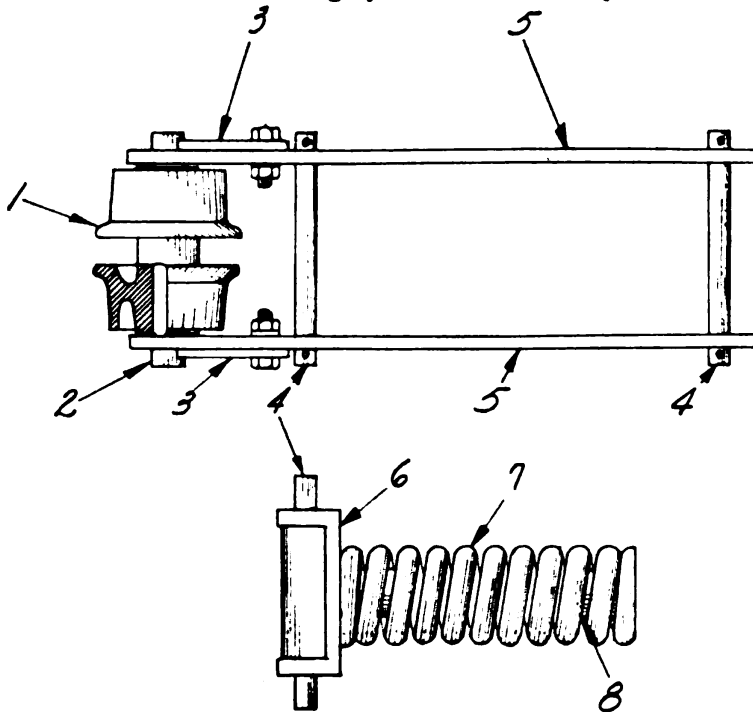

Figure 116. Spring tension idler.
Uncouple treads as directed under "Crawler Treads," partial repairs. Remove pins (4) Figure 116 and keepers (3), take up arms (5) may now be removed and shaft (2) pulled out of flanged roller.